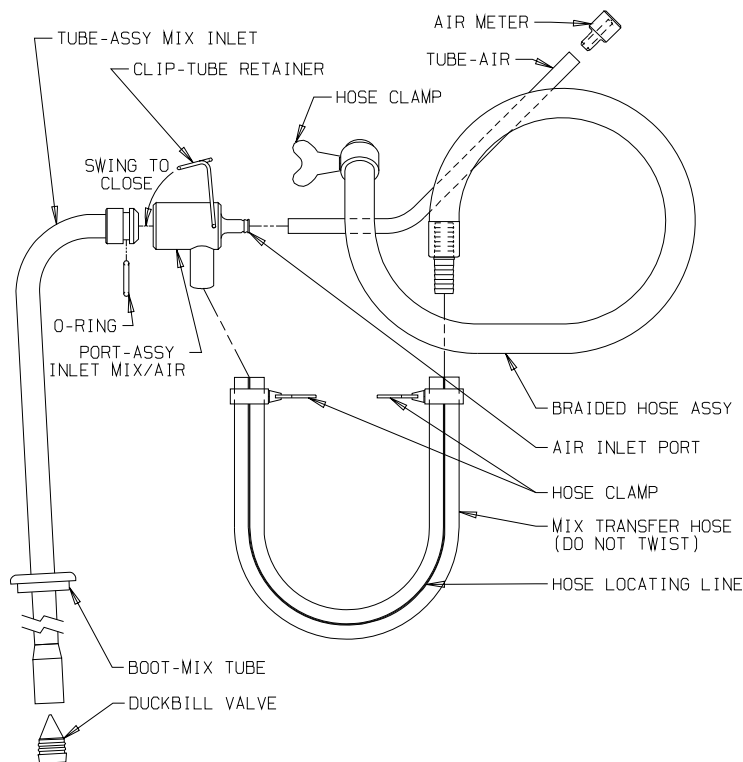

Figure 7-5 MTS Hose Assembly
13. Assemble the MTS hose assembly as shown in figures 7-5 and 7-6. The transfer hose has a red locating line. Hold the mix/air inlet port with the transfer hose mix port on your right and the barbed air port facing away from you. With the locating line up, slide the mix transfer hose onto the port. Then slide a clamp over the hose to secure it to the port. Finger tighten only! The thumbscrew must lie parallel to the mix/air inlet port.